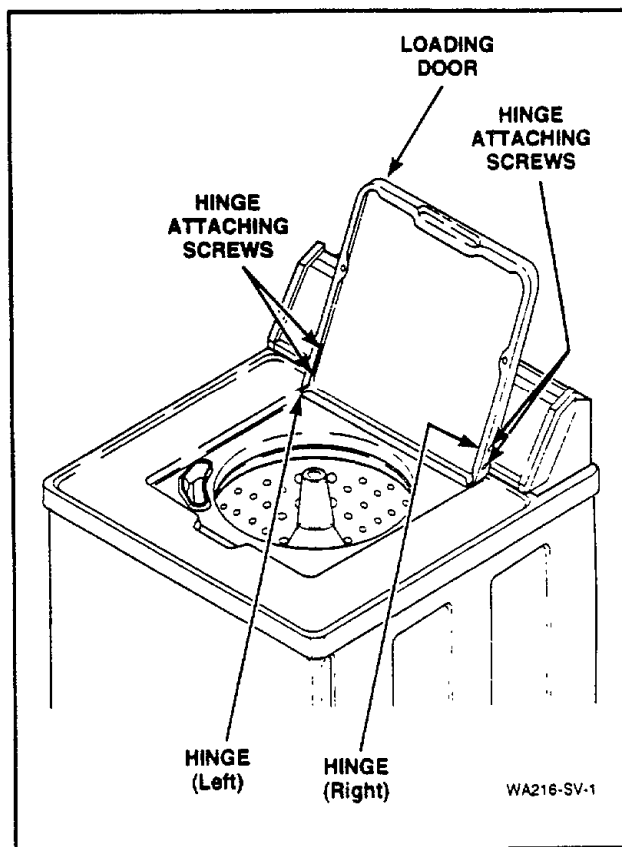

Figure 13
- Open loading door, *Figure 13*.
- Remove two screws holding left hinge to door and remove hinge and gasket, *Figure 13*.